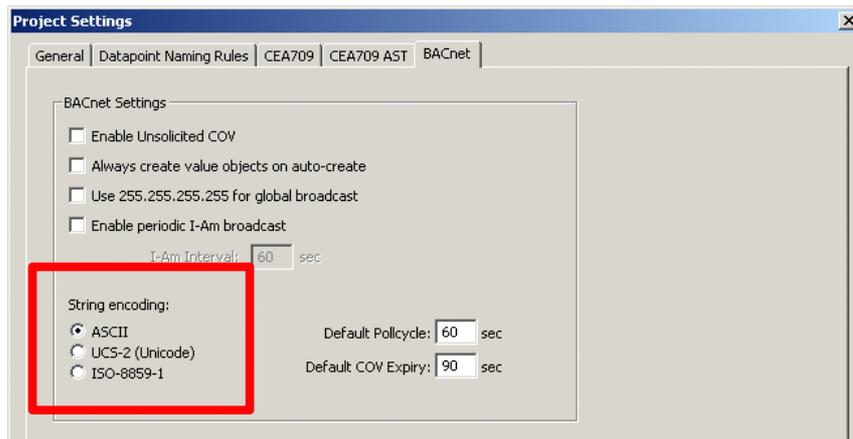

Figure 100: BACnet Project settings dialog.
3. Put a check mark either on ASCII (default), UCS-2 (Unicode, e.g., for Japanese), or ISO-8859-1 (for Western European languages), as indicated by the red rectangle in Figure 100.